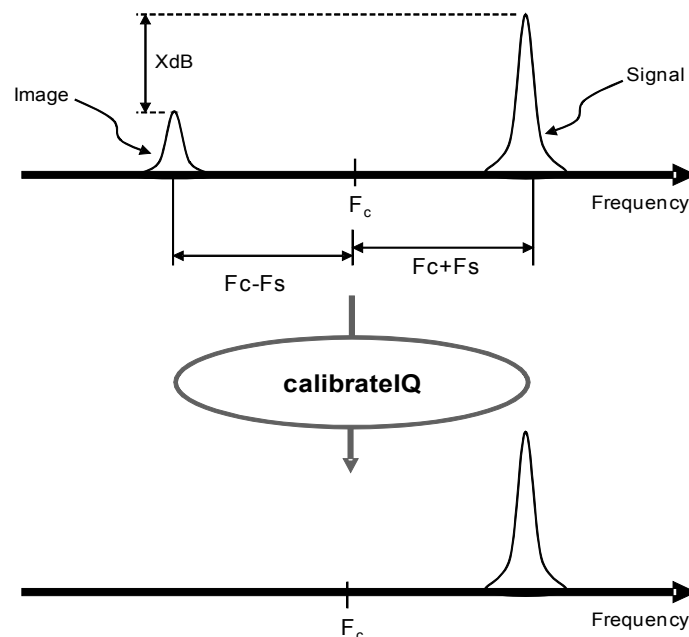

Figure 4: IQ Offset Correction
Direct-conversion receivers have phase and/or amplitude offsets between in-phase (I) and quadrature (Q) components of the baseband signal. Due to this, when an FFT is performed on digitized baseband data where there is a signal tone present, there will be an 'image' at the same frequency offset from the center frequency as the tone itself. This is illustrated in Figure 4.